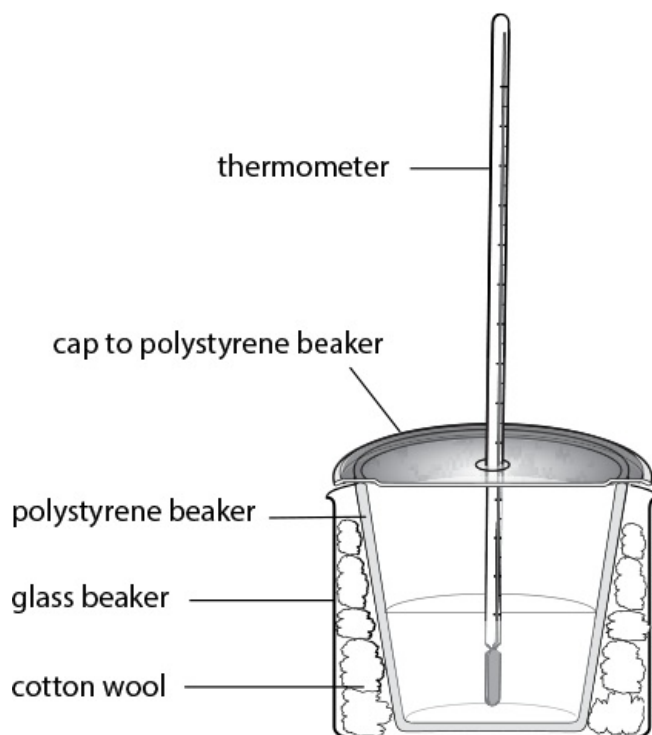

Figure 3.3: Determining the enthalpy change in a neutralisation reaction
- 5 a Stand the polystyrene beaker inside the glass beaker and pack the cotton wool round it to improve the insulation (as shown in Figure 3.3).